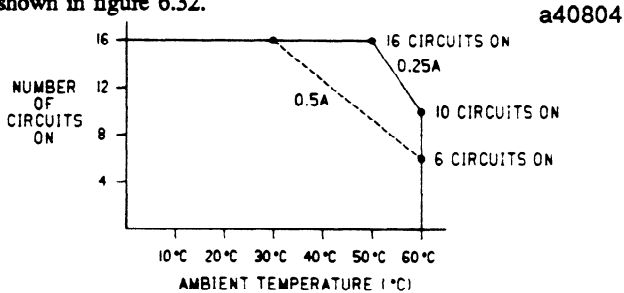

Figure 6-32. I/O Points vs Temperature
*Maximum load current is dependent on ambient temperature as shown in figure 6.32.